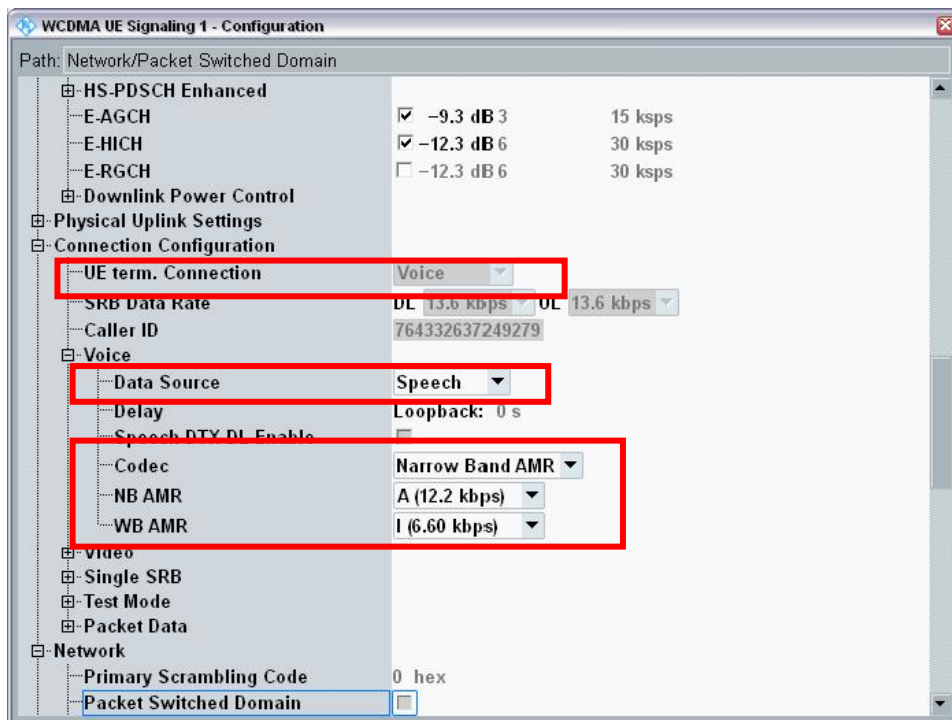

Figure 37: WCDMA Connection Configuration
6. Set the **UE term. Connection** to **Voice** (Figure 37: WCDMA Connection Configuration).